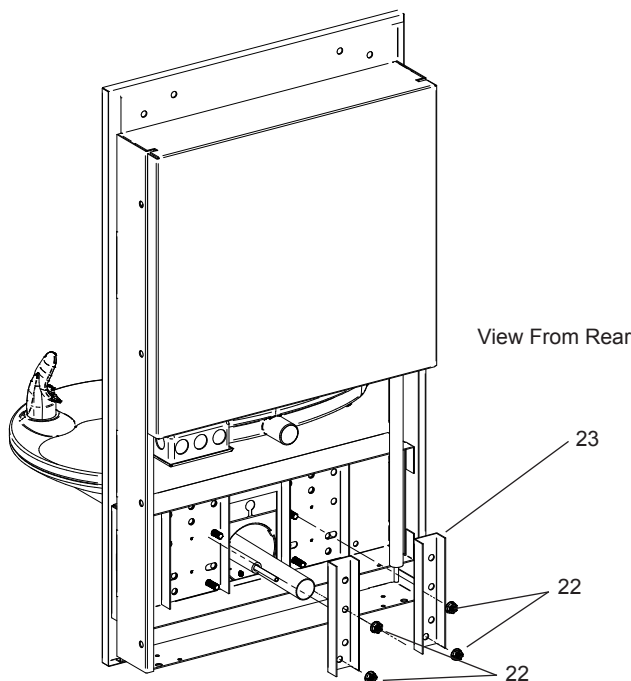

Figure 5 - Fountain Installation
8. **Install fountain** with (4) 5/16-18 HHMS, (4) 5/16-18 nuts & (2) support brackets (provided) (Fig. 5). Connect the 1/4" water line from the fountain to the remaining opening on the tee at the remote chiller (cut line to fit as needed).